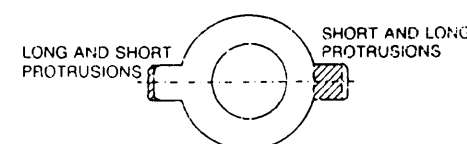

Fig 4. Let the protrusions come in line
- 2: Let the purity tabs come in line horizontally as is shown in fig. 4. A long tab should be in the same direction as the other short tab.